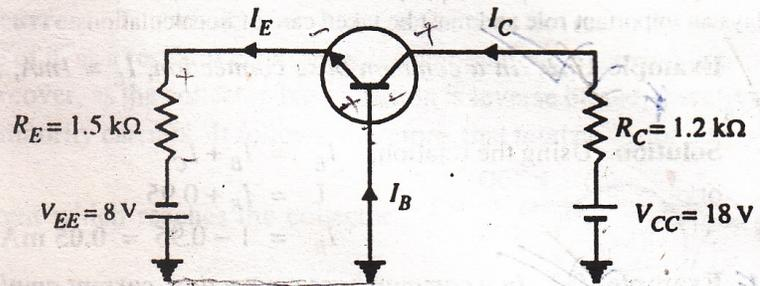

Fig. 10.13
**Example 10.7.** For the common base circuit shown in Fig. 10.13, determine  $I_C$  and  $V_{CB}$ . Assume the transistor to be of silicon.